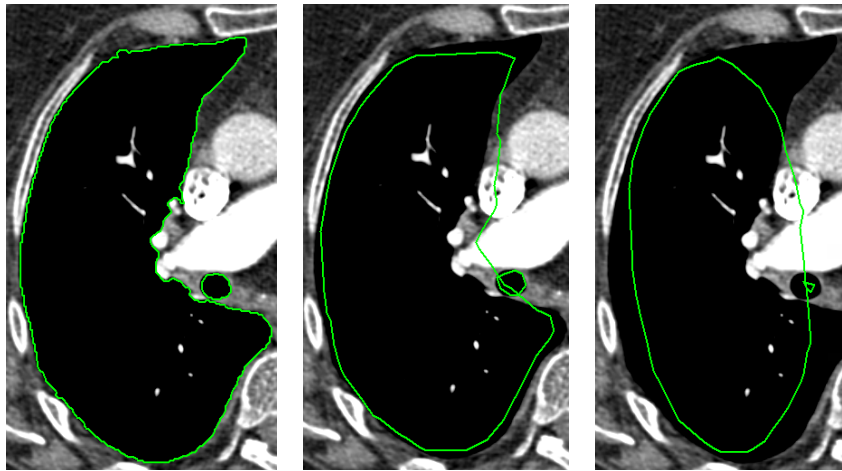

Figure 174 – (a) Source ROI, (b) smoothen ROI (1st applied), (c) smoothen ROI (5th applied)
4. Press the **Apply** button as many times as needed to achieve a satisfying result. Result is displayed in the current view immediately (see Figure 174).